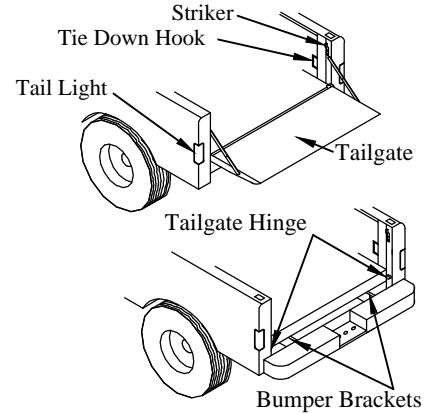

Figure 5: Remove Hardware.
1. **Remove** the tailgate (Figure 5).
2. **Remove** the tailgate strikers (Figure 5).